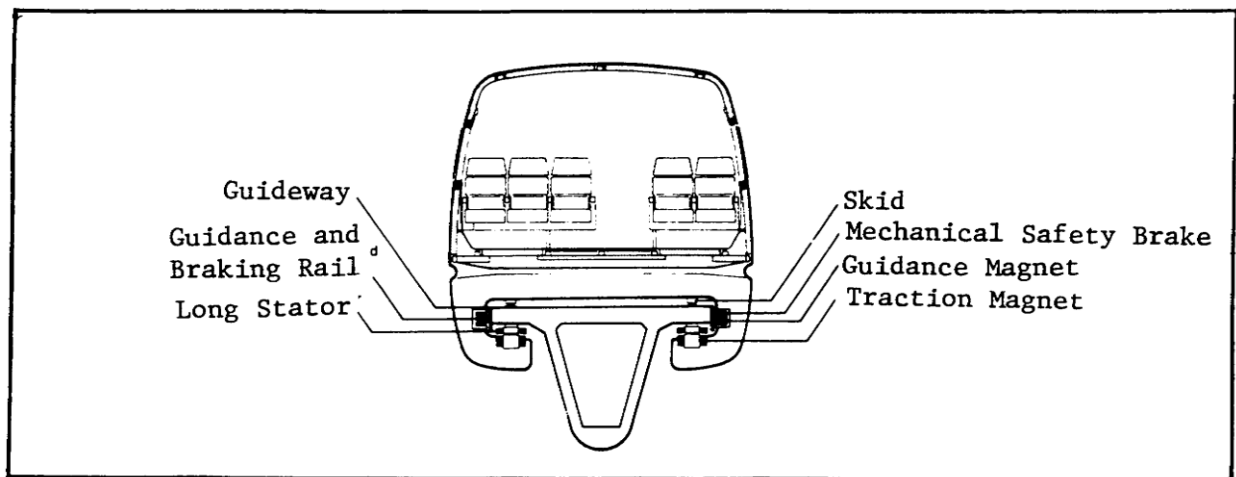

Figure 1-24. Main Components of Transrapid Guidance and Traction System.
d. Monorail (Transrapid) system. In this system, the track is entirely elevated. The equipment for guidance, levitation, and propulsion is fitted to the concrete guideway (Figure 1-24). A transrapid train can reach a speed of 450kmh.